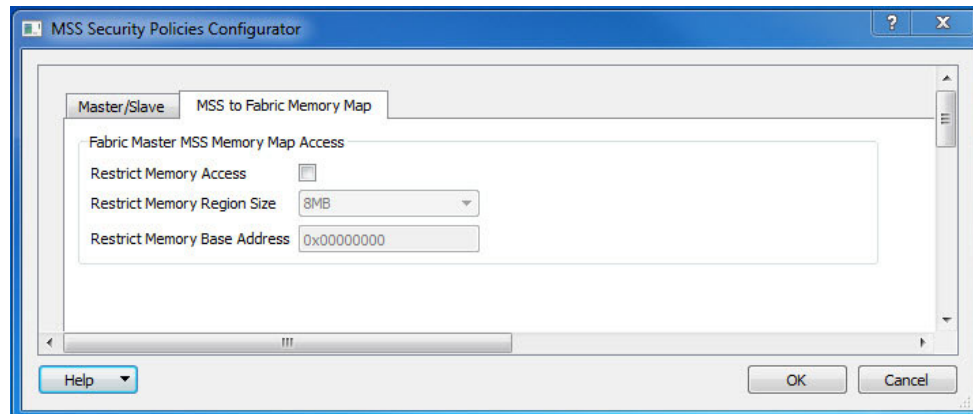

Figure 1-2 • Fabric Master MSS Access Configuration
3. Define the base address of that region; the base address should be a multiple of the restricted region size selected in the configurator (Figure 1-2).